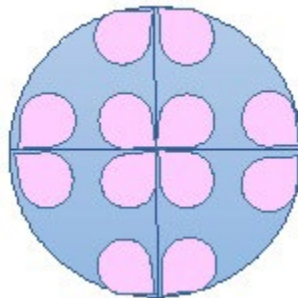

Figure 1. Depiction of an X plate with media in each corner.
1. Fill each corner of the X plate with ~200 μ L HEPES-TALP + AMIKACIN. Put 3 additional ~200 μ L drop of HEPES-TALP + AMIKACIN in between each corner, up against the wall of the plate. See Figure 1. Do not cover with oil.